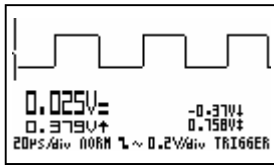

Fig 53
- 'norm' = normal triggering (fig 53)
- 'norm' = normale triggering (fig 53)
- 'norm' = synchronisation normale (fig 53)
- 'norm' = normale Auslösung (fig 53)